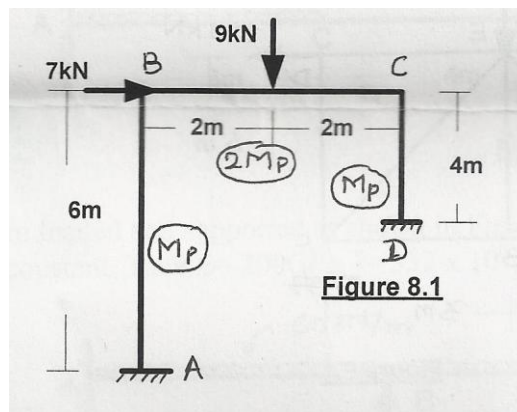

Figure 8.1
Q. No. 8: a) State and explain the concept of plastic hinge. Explain step by step, how plastic hinge is Developed in beams under gradually applied load. Draw various shapes of stress diagram. (9)
b) Determine the values of plastic moment of the frame when loaded up to collapse. Refer Figure 8.1. (9)